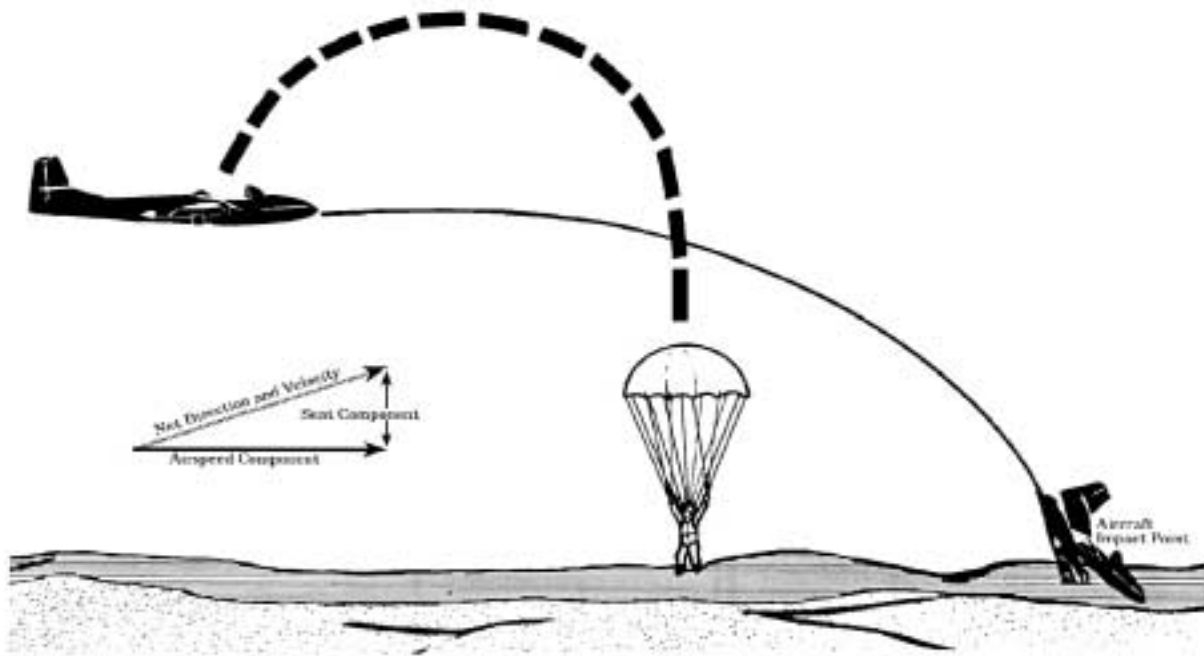

Figure 3-2 — Straight and Level Conditions
1. Straight-and-level conditions. This flight attitude, with the necessary parachute deployment airspeed, is the minimum acceptable requirement for survival during low altitude ejections. Most systems will provide parachute opening at or above the ejection altitude and a safe recovery is generally ensured (Figure 3-2).